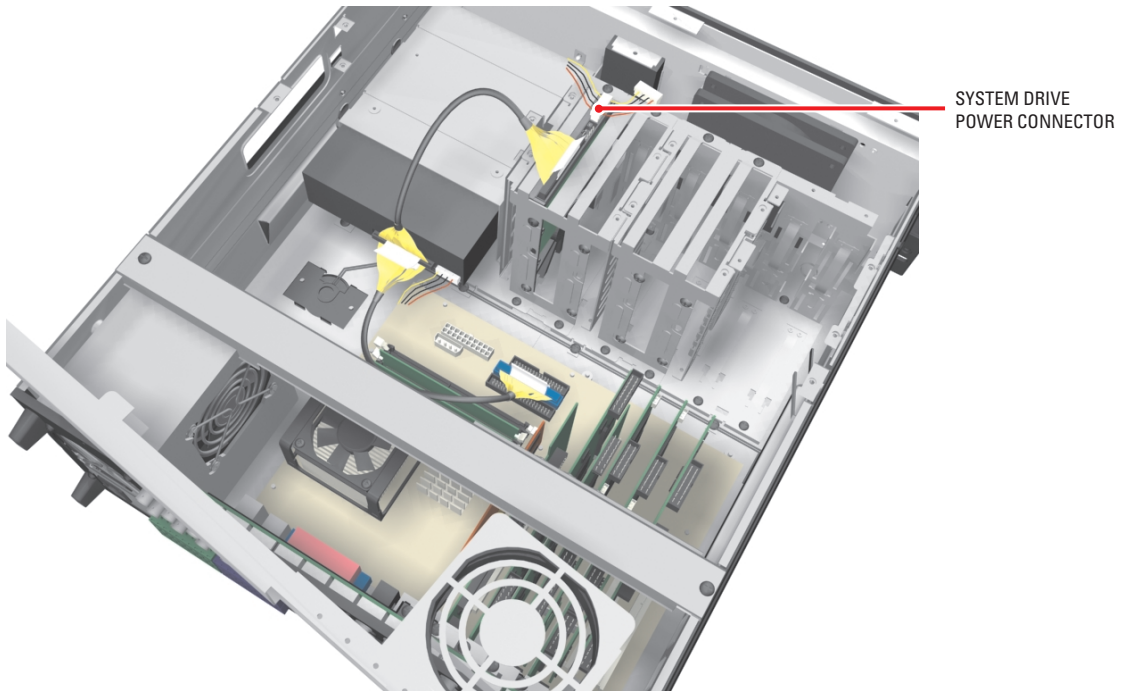

Figure 17. Installing Power Connector
3. Connect the system drive power connector according to the diagram in Figure 17. If a second drive is in the drive mounting basket, reconnect its power connector.